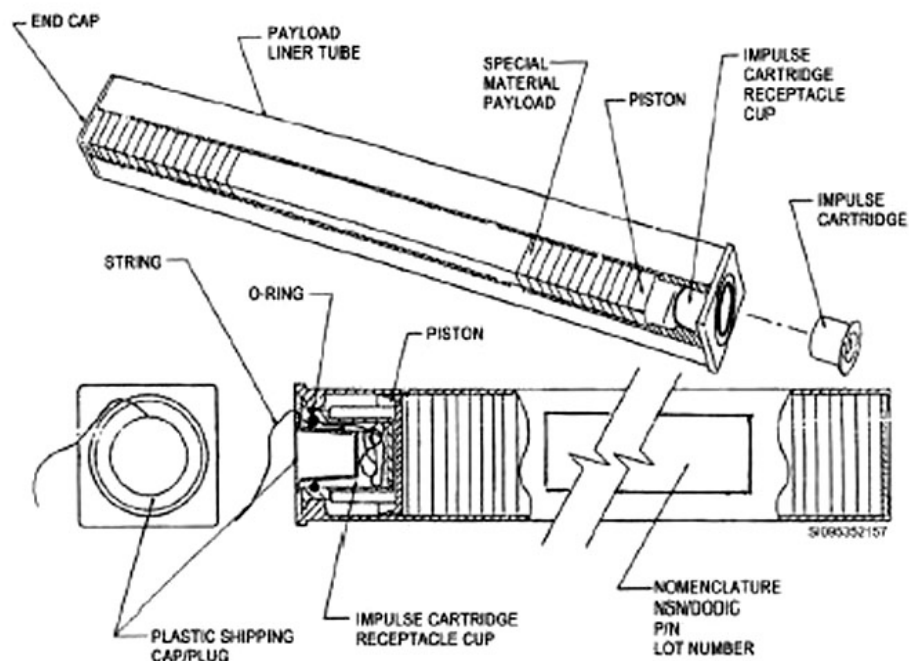

Figure 3-29. M211, MJU-46/B, MJU-50/B IR decoys.
The M211, MJU-46/B, MJU-50/B, and MJU-51A/B infrared (IR) decoy countermeasures (fig. 3-29) all consist of an aluminum cartridge case purged with nitrogen and containing a payload of special material elements which react with air. Each aluminum cartridge case contains a sealed receptacle cup with an o-ring for a BBU-35/B impulse cartridge, a plastic/nylon piston, crimped and then sealed, and a metal end plate. When the impulse cartridge is fired, the receptacle cup membrane ruptures. Pressure inside the canister increases until the end cap seal breaks—deploying the special material payload into the air stream. The payload reacts with the air generating IR energy to decoy surface-to-air and air-to-air missiles. There are only slight characteristic differences between this group of infrared decoys which are explained in detail in TO 11A16-47-7. All these IR decoy countermeasures (M211, MJU-46/B, MJU-50/B, and MJU-51A/B) are loaded into either the ALE-40, ALE-45, or the ALE-47 dispenser.